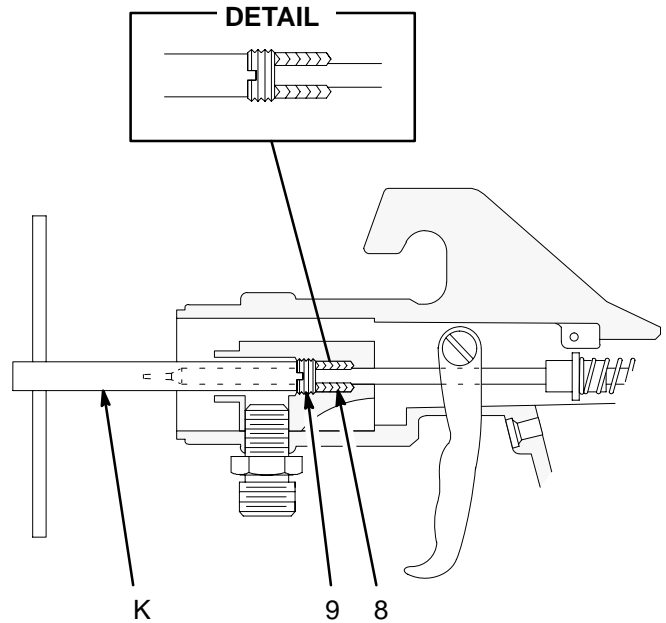

Fig. 23
8. Trigger gun while slightly turning packing nut (9) clockwise with packing wrench (K), provided. See Fig. 23. This will compress packings.